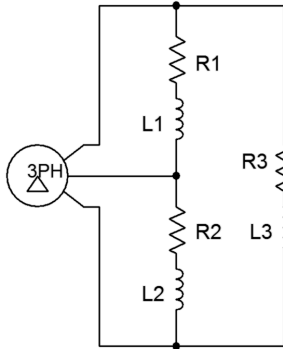

Figure 9.5
9. A 3-phase Δ connected generator feeds a Δ connected load consisting of 3 legs of $10\ \Omega$ in series with $j4\ \Omega$ of inductive reactance, as shown in Figure 9.5. If the line voltage is 208 volts, find the voltage across each load leg, the current through the wires connecting the load to the generator, and the apparent and real powers drawn by the load.
10. Given the delta-delta system of Figure 9.5, if the generator phase voltage is 120 volts and the load is balanced with each leg at $20 + j10\ \Omega$, determine the line voltage, line current, generator phase current, load current, the voltage across each load leg, and the total real and apparent load powers.